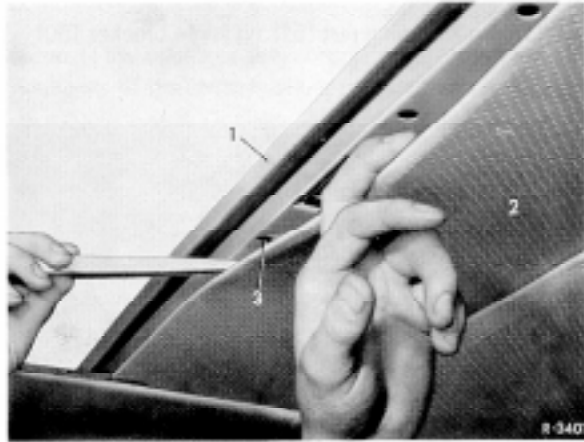

Fig. 1
1 Loosen sliding roof headlining (2) with sliding roof opened to 3/4 and remove in forward direction (Fig. 1).